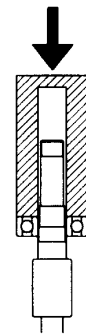

Fig. 17
- (1) Press the first bearing ⑳ onto shaft ⑥ until seated against the shoulder facing the printed side front (pulley side), and then, press the second bearing ㉑ facing the printed sides each other. (Fig.17)
- (2) Install bearing washer ㉒ and bearing nut ㉓.
- (3) Fill bearing ㉒ with the grease.